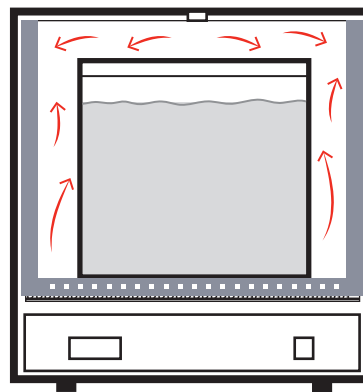

FIG. 6
- Avoid extremely large (in quantity or size), or high-density loads ( FIG. 6 ). This will show by non-uniform processing and long or impossible "heat-through" times. To help determine a large load's suitability, use the set-point recovery time (the time it takes for the temperature to recover to the original set temperature once load is placed and door is closed), as a guide.